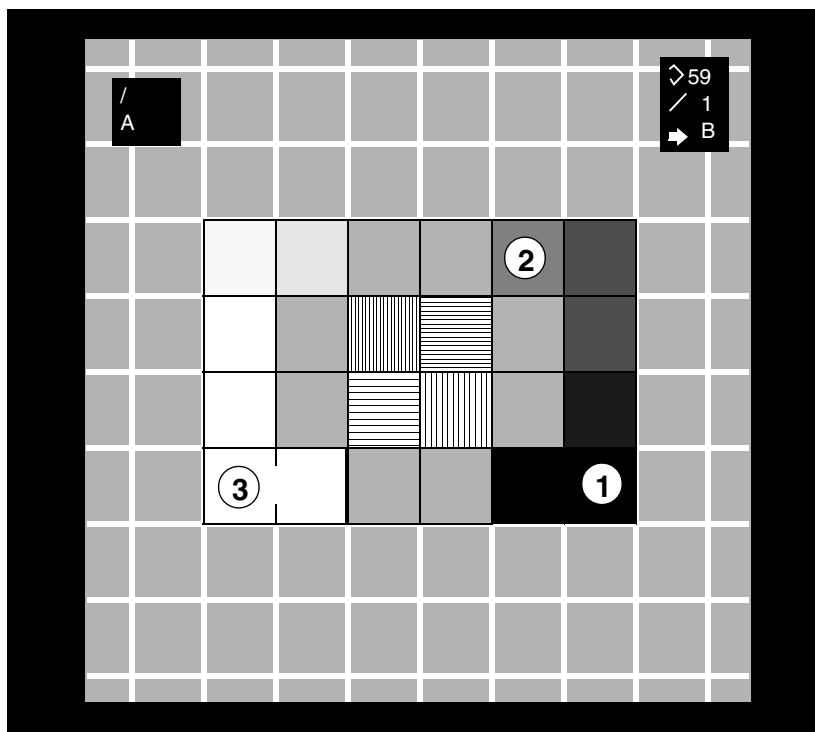

Fig. 1
- Change B until the 40% gray level (see Fig. 1) corresponds to the nominal value D_{nominal} (see tables 3 to 6).
Memory test image on the monitor [Film = Positive image display] (Fig. 1)